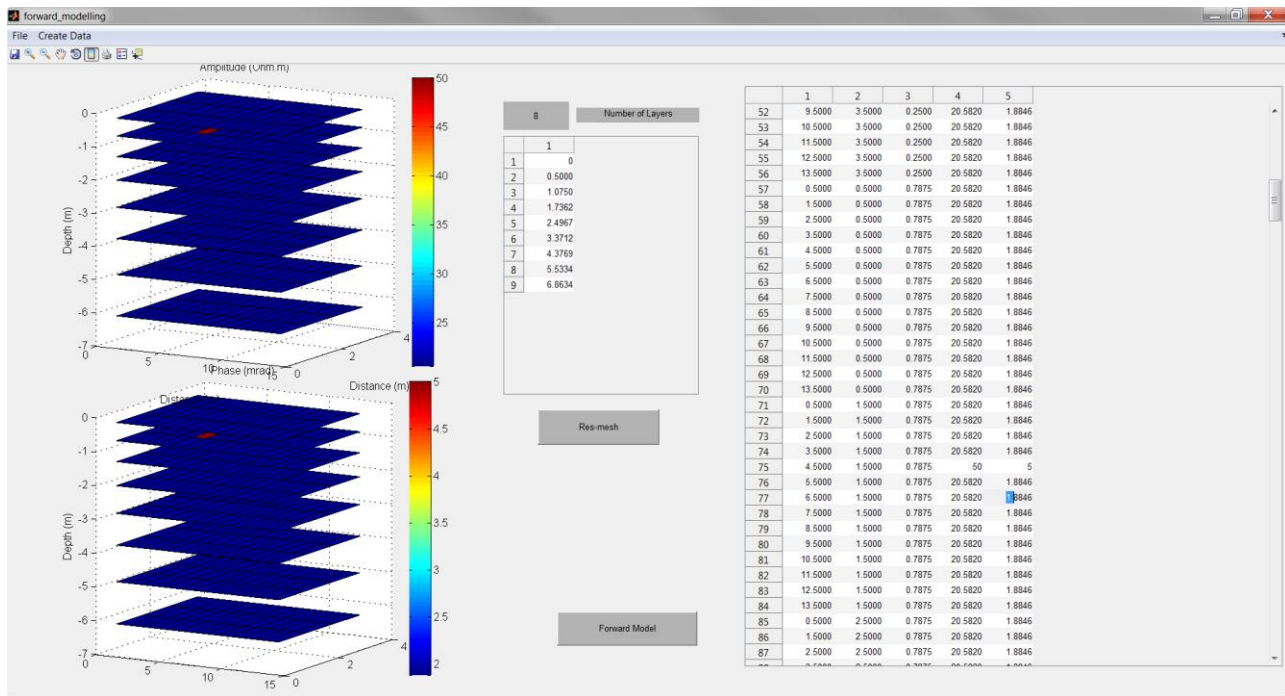

Figure 8: Creating a 2D synthetic model. By clicking the Edit Model button, user selects the parameter to change the corresponding resistivity and IP parameter.
- In the 3D case, on the right side of the GUI, the x-y-z coordinate is shown, together with the corresponding resistivity (or amplitude and phase) (Figure 8).
Figure 8: GUI to create 2D (left) and 3D (right) measurement array. The basic options are the measurements array and the, the number of electrodes, electrode spacing and the separation of the dipoles. In the 3D case, additional information regarding the number of parallel lines used and the spacing between the lines is required.